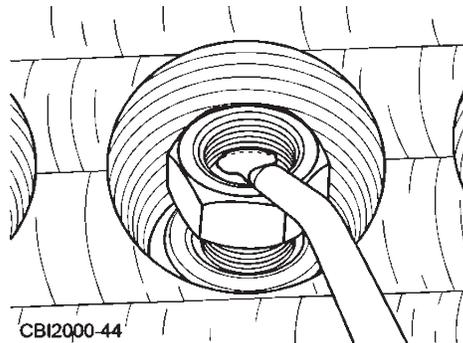

Figure 6.10 - Lubricate stud threads
9. Lubricate Stud Threads - Place one drop of light machine oil on the top of each of the studs by the threads to lubricate the nuts when they’re tightened (Figure 6.10).